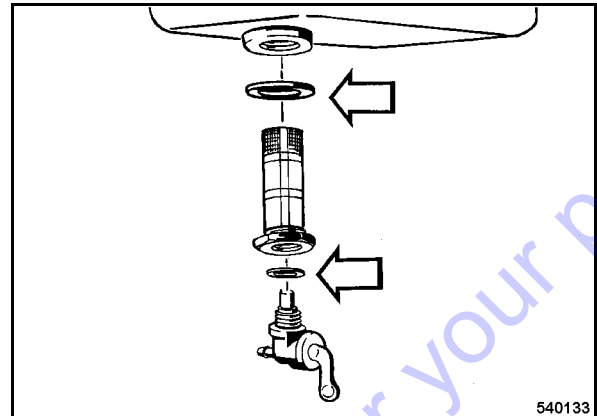

Fig. 52
- Screw the strainer and the fuel shut-off valve in with a new seal each (Fig. 52).